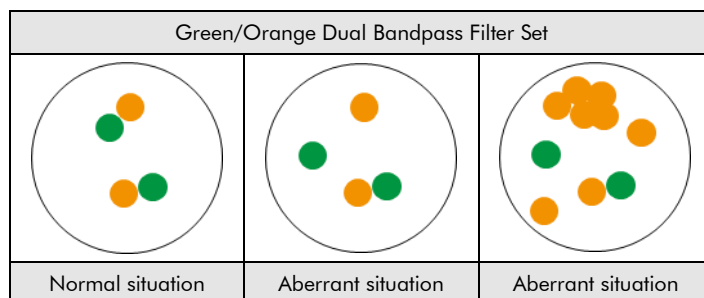

Fig. 2: Expected results in normal and aberrant nuclei
**Normal situation:** In interphases of normal cells or cells without a translocation involving the ABL1 gene region, two green/orange fusion signals appear (see Fig. 2).
**Aberrant situation:** One ABL1 gene region affected by a translocation is indicated by one separate green signal and one separate orange signal. One ABL1 gene region affected by a NUP214-ABL1 fusion associated with amplified episomes is indicated by one separate green signal and multiple orange signals or an orange signal cluster (see Fig. 2).